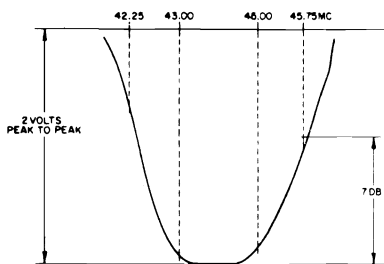

Figure 10 - Typical IF response, Mixer Amp Grid to 2nd Det.
| 5.   | Connect sweep generator to TP (M) at 44.25 MC. Couple CW generator with marker at 44.25 MC to sweep generator cable. Keep marker amplitude low to avoid distorting response. Adjust scope for 2V PP.  | Mixer output coil for maximum amplitude. T200 for "rocking symmetrical response with waveshape and markers" as shown in Figure 10.   |